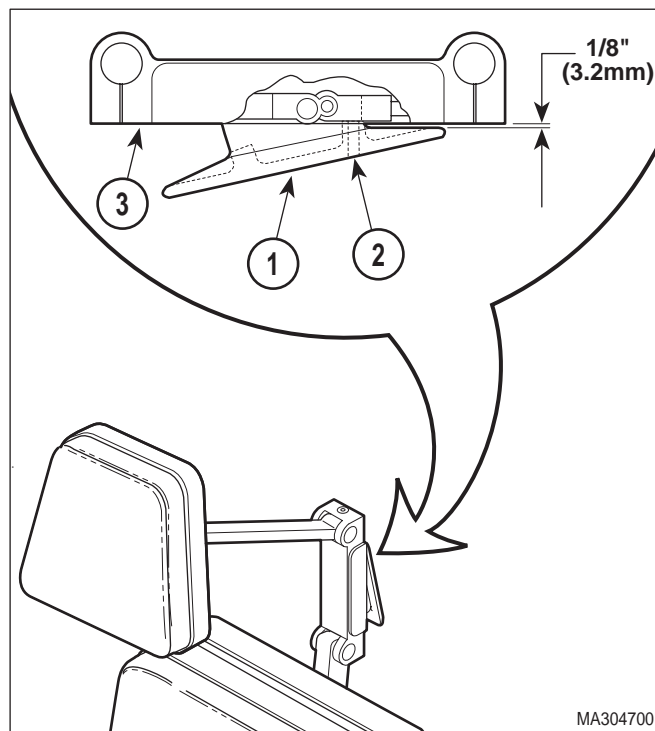

Figure 4-26. Headrest Handles Handle Stops Adjustment
- (1) Lock the locking handle (1, Figure 4-26).
- (2) While applying pressure on locking handle (1), adjust setscrew (2) in or out until there is a 1/8 in. (3.2 mm) between top of lock handle (1) and headlock bar (3).